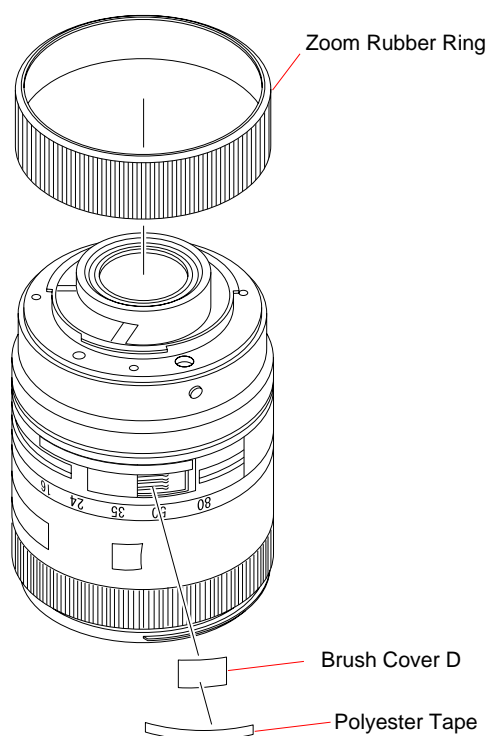

Fig.4-10-1
- 1) Remove parts indicated in Fig.4-10-1 from the lens unit.